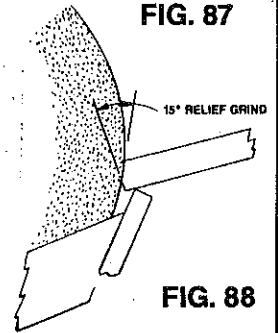

FIG. 88
- C. There are three (3) hand knobs to loosen. Two on the base for the adjusting arm locks and one for grinding wheel vertical height adjustment locking screw. Raise the grinding wheel up (approximately 7 turns) so the reel blade can rest on the reel guide finger. It will be necessary to infeed the grinding wheel to accomplish this. (See FIG. 88)